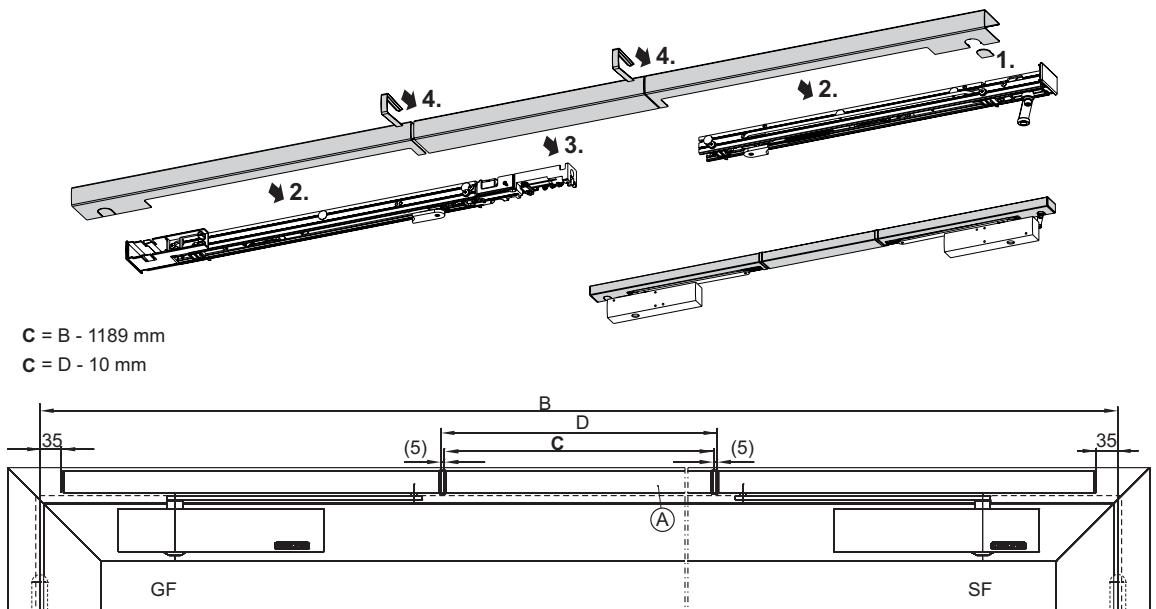

Fig. 6.11.1
- ▶ Shorten adjustable-size middle cover panel "A" to size "C" (**Fig. 6.11.1**).